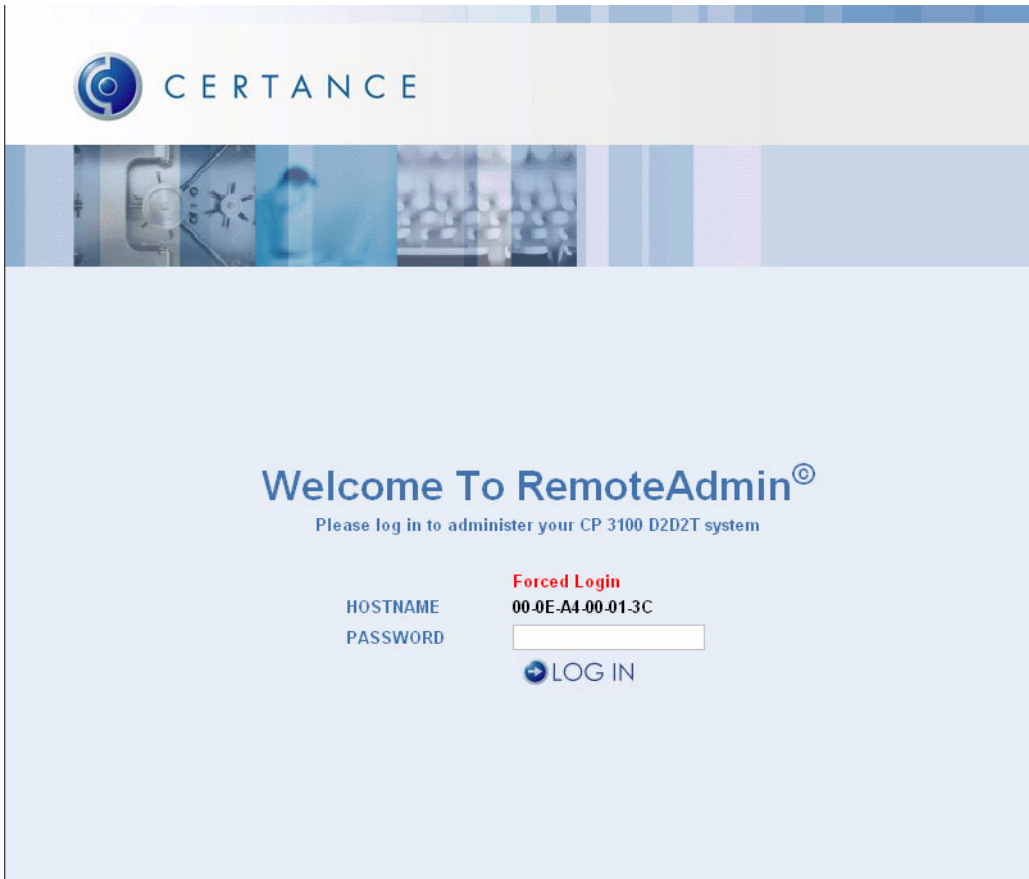

Figure 27. Login Screen with “Forced Login” Message
- An error message shows the Internet Protocol (IP) address of the person already logged in.
- The Login page appears, with the words **Forced Login** above the host name (see Figure 27 on page 56).